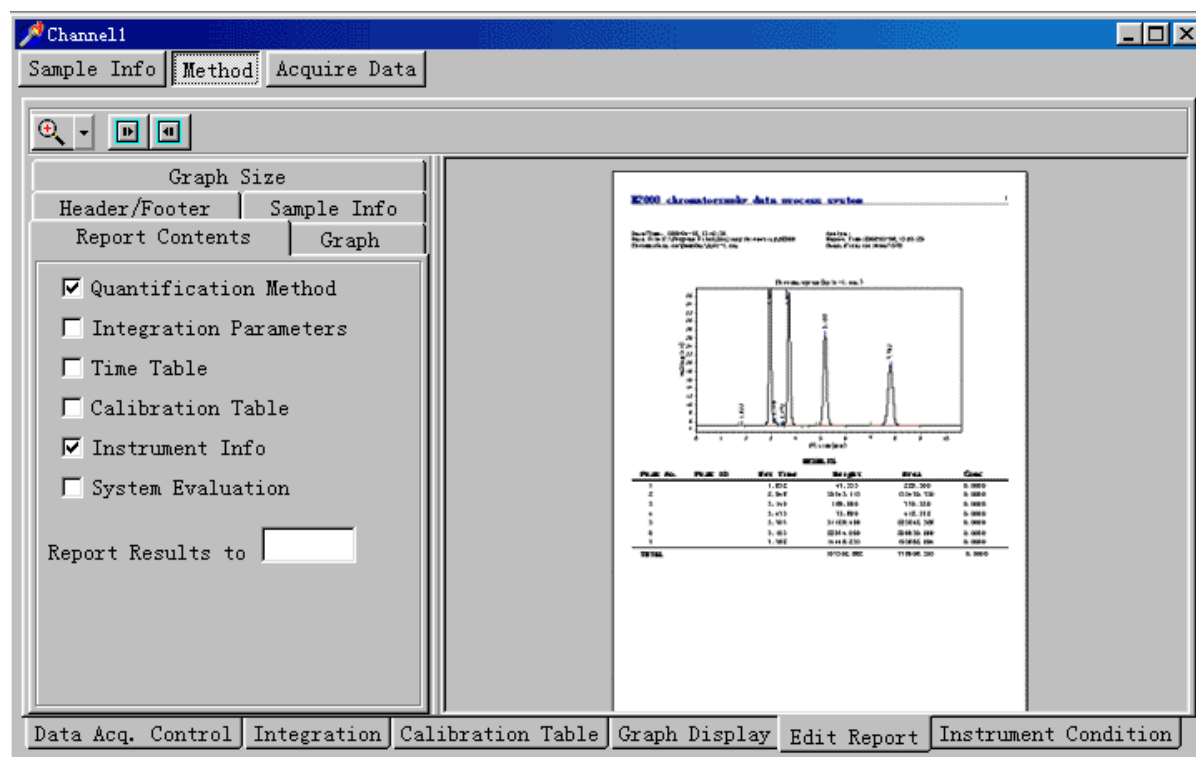

Figure C-250. Dialog Box for Editing the Experiment Report
3. The Dialog Box for editing the experiment report appears as shown in Figure C-250.